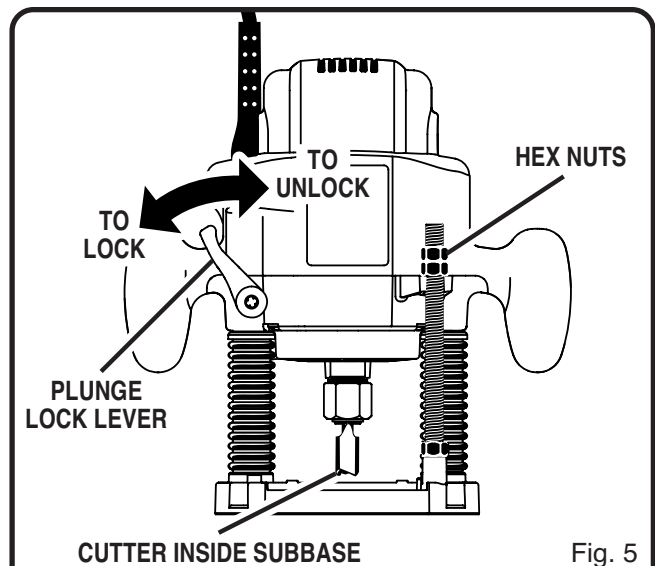

Fig. 5
See Figures 5, 6 and 7.
- Raise cutter by unlocking plunge lock lever. See Figure 5.